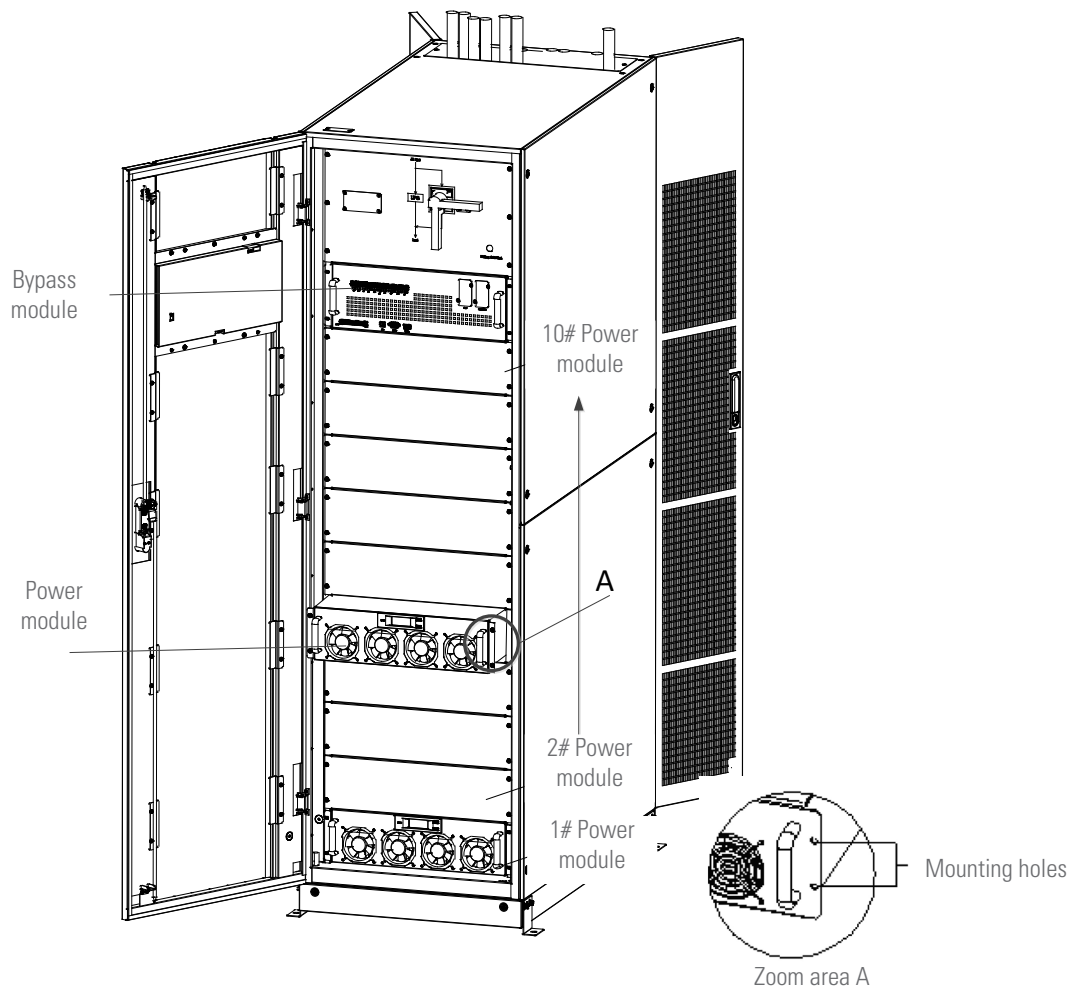

Fig. 41. Installation of power modules.
The installation position of the power modules is shown in Fig. 41. We take a 10-slot cabinet for 30 kVA modules as an example, proceed in the same way for 50 kVA modules.
4. Fix the module to the cabinet using the mounting holes located on both sides of the module's faceplate (see Fig. 41, on the right).